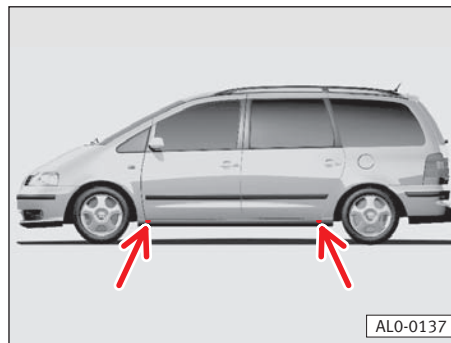

Fig. 177
- Depressions in the side member at front and rear indicate the points at which the claw of jack must be fitted to the vertical rib of the side member ⇒ arrows, fig. 177.